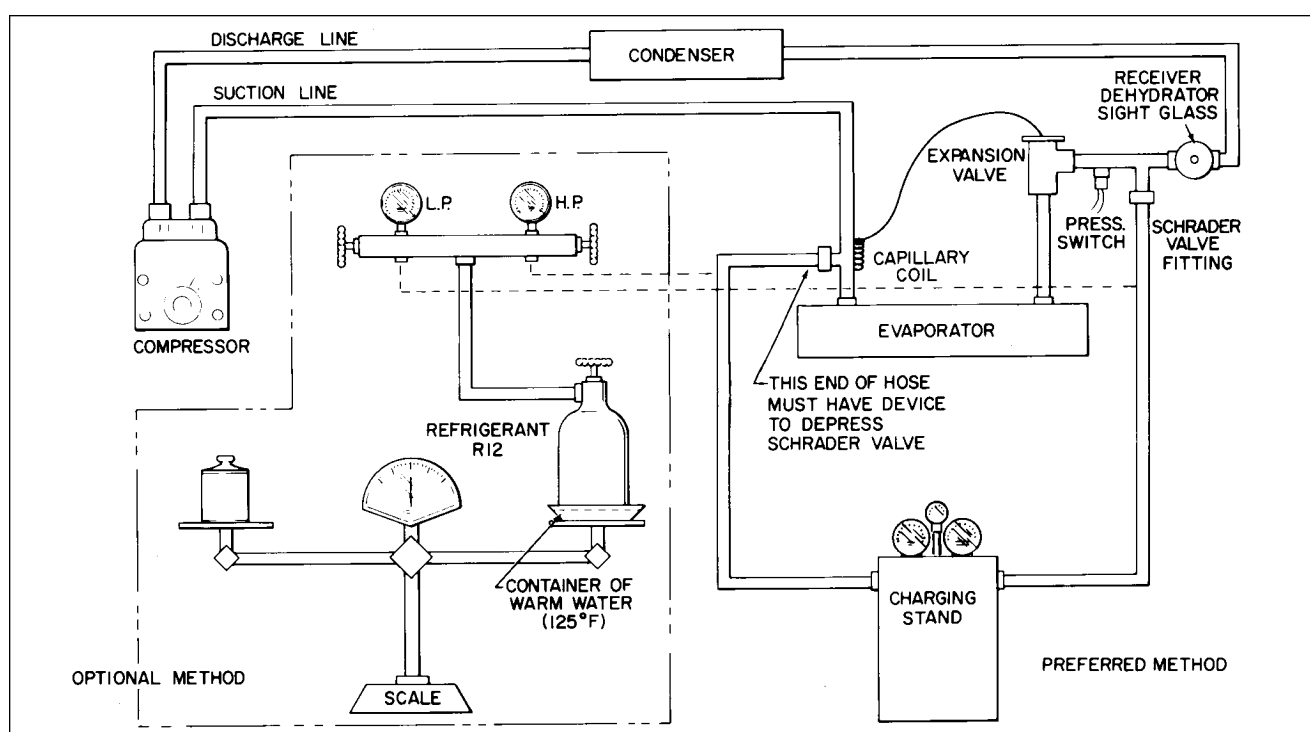

Figure 21-10. Charging Hookup
1. With the system discharged and evacuated, proceed to hook up the charging stand. (Refer to Figure 21-10.)
1. With the system evacuated as outlined in Evacuating the System, connect the refrigerant charging hose to the manifold (refer to Figure 21-10) and purge the charging hose of air.
2. Connect a charging hose to a refrigerant cylinder and also to the Schrader valve fitting on the suction line. (Refer to Figure 21-10.)